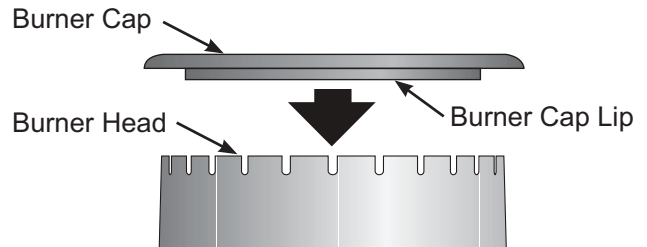

Figure 18: Burner Cap
1. Remove the burner cap from the burner head (see Figure 18). Clean the cap with hot soapy water and dry thoroughly.